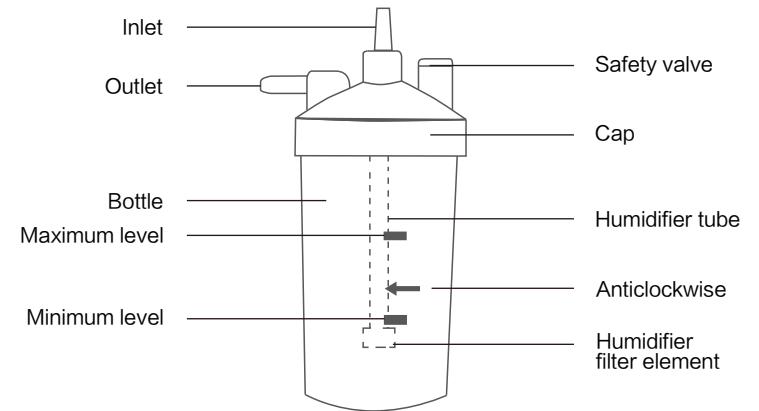

Figure 5: Humidifier Components
1. Unscrew the bottle from the humidifier anticlockwise. Fill the bottle with pure water (or distilled water) to the level between MAXIMUM and MINIMUM. Do not fill humidifier bottle over MAXIMUM level. (Figure 5)